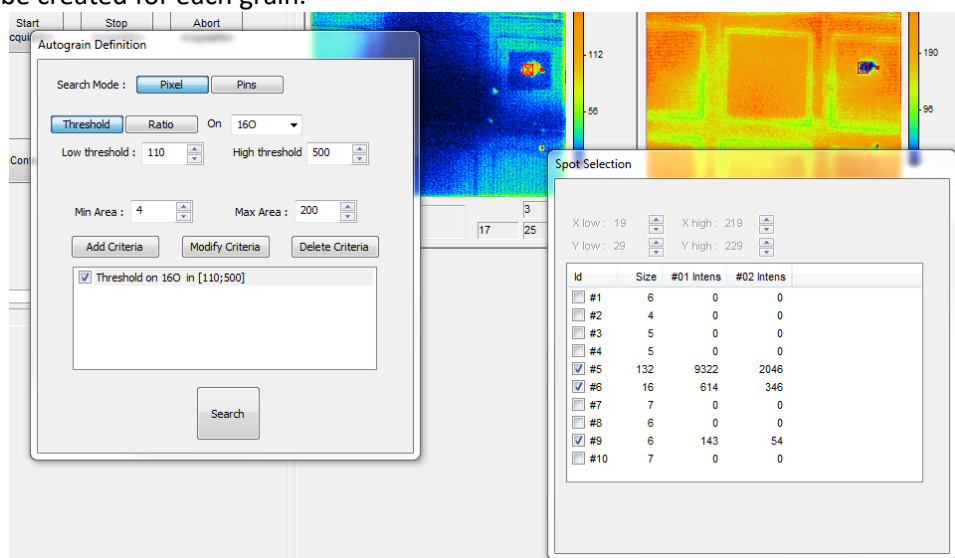

Figure 372: Auto-grain mode: List of grains matching the criteria and selection for analysis.
- When all conditions are set, click on “**Search**”. A new pop-up window opens, listing all areas matching your conditions (Figure 372).